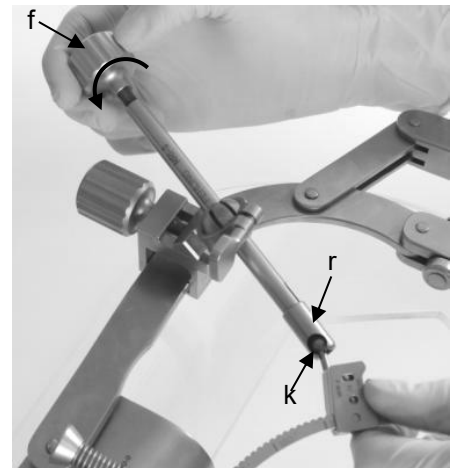

Fig. 11
Figure 11 shows the connection of the AVR retractor with the sternal retractor.
- The connection between the MRI-0 hook guide and the ball of the MRW-6 connector carriage (k) is established by turning the locking nut (f) of the hook guide clockwise (cf. Fig. 11),